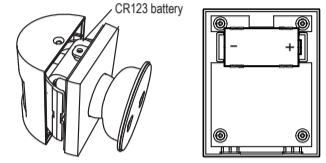

Fig. 2
- Remove the screw from the bottom part of the top plastic cover with the screw driver (as shown in diagram) and install the 1 x CR123 lithium battery (Fig. 2).